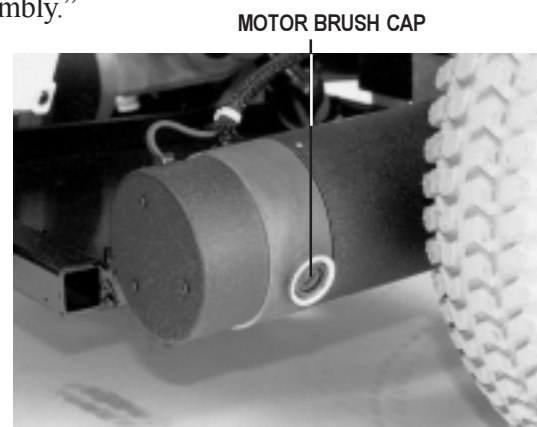

Figure 35. Motor
2. Unscrew the motor brush caps. See figure 35.